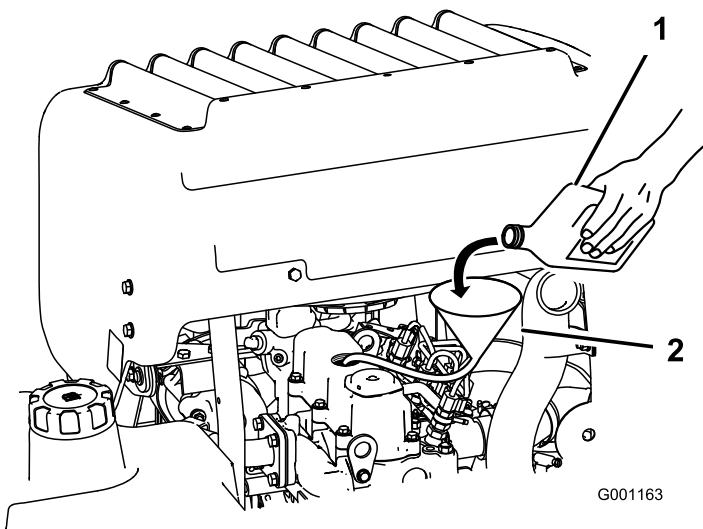

Figure 39
3. To add oil to the engine, locate and use a hose and funnel for adding oil (Figure 39).